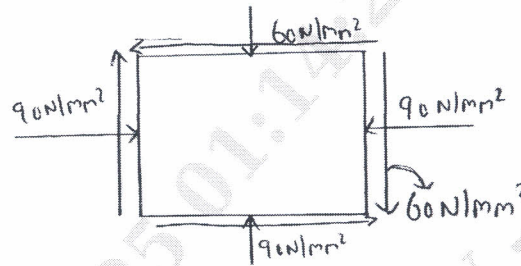

Fig.Q.3(c)
- c. At a certain point in a strained material the following stress condition exists, as shown in Fig.Q.3(c). Determine the principal stresses and its planes, maximum shear stress and its planes, the normal stress acting on maximum shear stress planes, also sketch the planes.